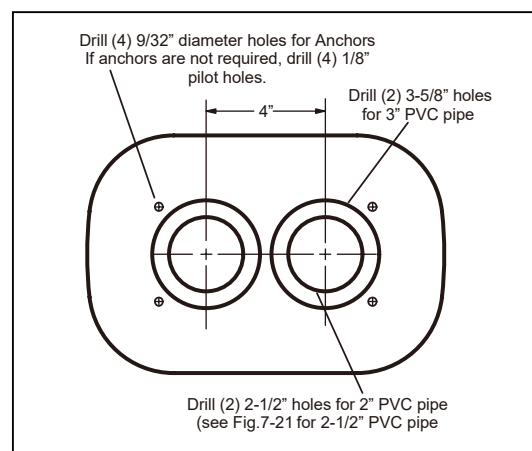

Fig. 7-17
4. Using the template as a guide, drill two 3-5/8" holes for 3" PVC pipe or two 2-1/2" holes for 2" PVC and 2-1/2" PVC pipe. For 2-1/2" PVC installations transition to 2" PVC and install into flush-mount as shown in Fig. 7-21. Do not vary from the template. All dimensions are critical. There must be 4" center line to center line for either 3" pipe or 2" pipe. See Fig. 7-17.